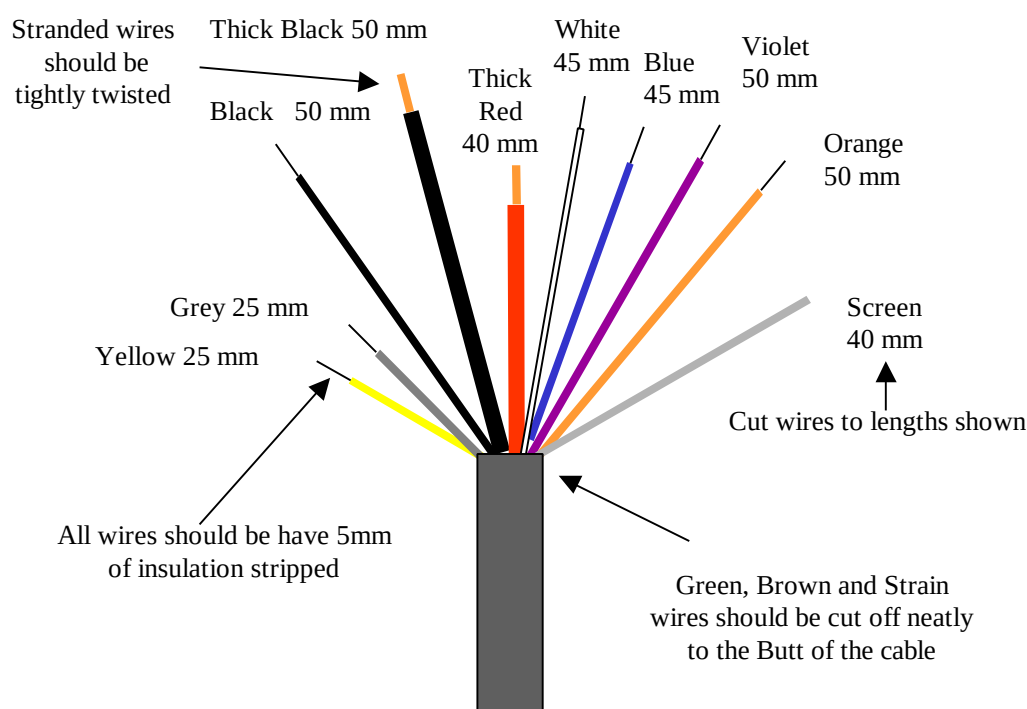

Figure 26. Wire Stripping Dimensions for 80 Metre Drop Cable Lead-Out
4. Make sure that the free end of the drop cable reaches the junction box housing. Mark and cut to length and tailor the wire ends as shown in Figure 26.